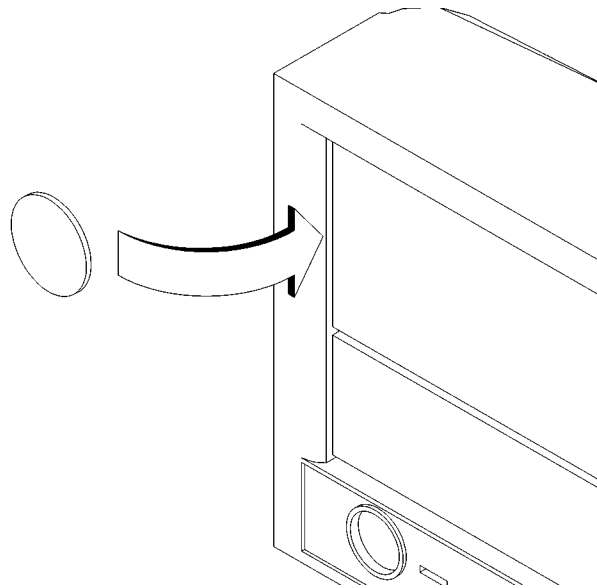

Figure 30
- 1 Remove the disk filler panel from the bottom location of the bezel by using a coin or other flat, blunt object to pry it from the front, as shown in Figure 30.